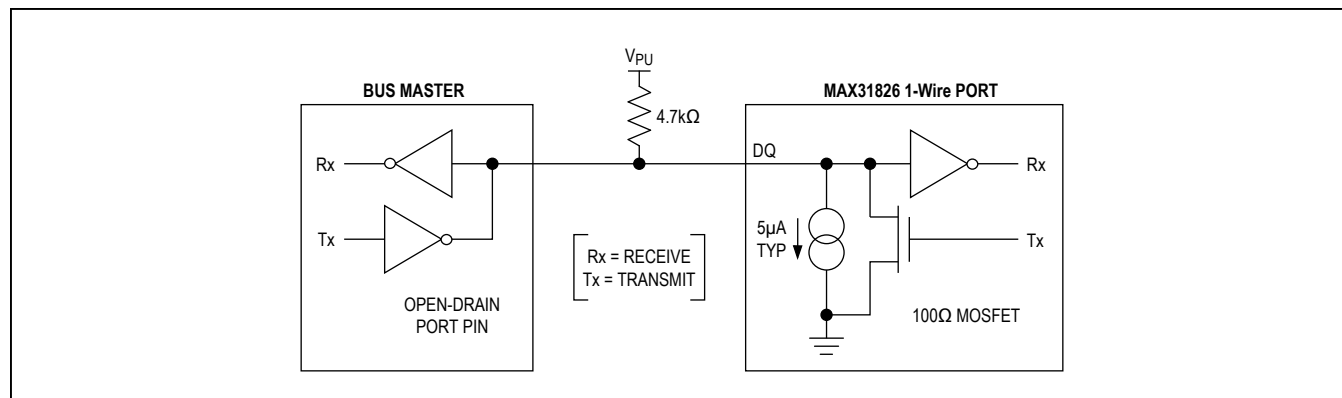

Figure 6. Hardware Configuration
The 1-Wire bus has by definition only a single data line. Each device (master or slave) interfaces to the data line by using an open-drain or three-state port. This allows each device to “release” the data line when the device is not transmitting data so the bus is available for use by another device. The device's 1-Wire port (DQ) is open drain with an internal circuit equivalent to that shown in Figure 6.